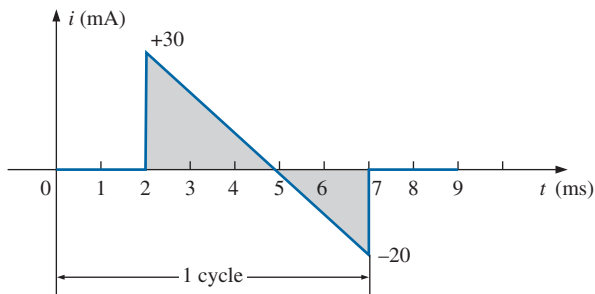

FIG. 13.101
44. Find the average value of the periodic waveform of Fig. 13.101 over one full cycle.